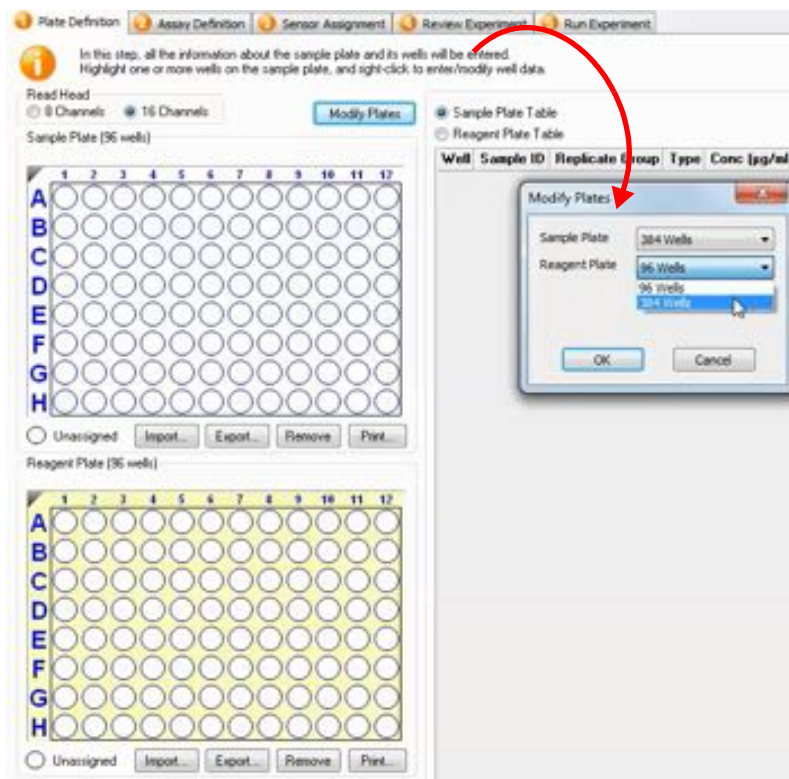

Figure 10-30: Modifying the Reagent Plate
2. Click **Modify Plates** above the **Sample Plate Map**. The **Modify Plates** dialog box displays (see Figure 10-30).